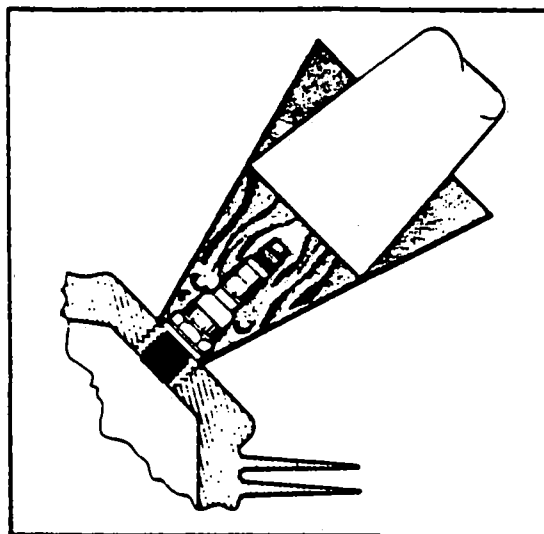

Figure 8A-28. Removing Frozen Spark Plug
d. Removal of seized spark plugs in the cylinder may be accomplished by application of liquid carbon dioxide by a Conical metal funnel adapter with a hole at the apex just large enough to accommodate the funnel of a CO2 bottle. (Refer to Figure 8A-28.) When a seized spark plug cannot be removed by normal means, the funnel adapter is placed over and around the spark plug. Place the funnel of the CO2 bottle inside the funnel adapter and release the carbon dioxide to chill and contract the spark plug. Break the spark plug loose with a wrench. A warm cylinder head at the time the carbon dioxide is applied will aid in the removal of an excessively seized plug.